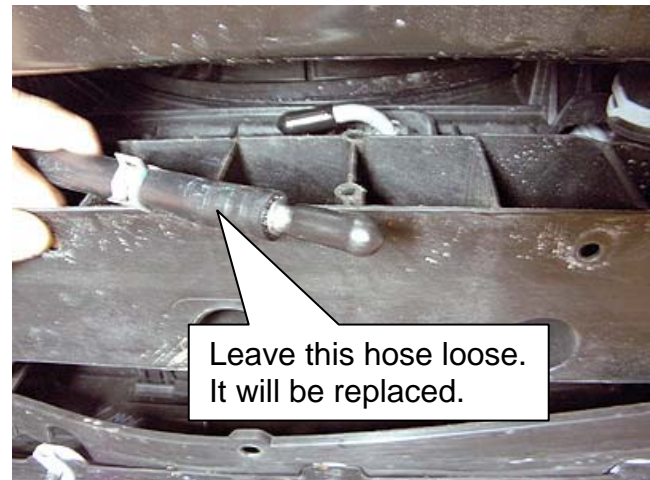

Figure 1
- Leave the "transmission to radiator cooler hose" loose at this time (CVT Fluid Cooler Hose A/B Assembly, Figure 1).